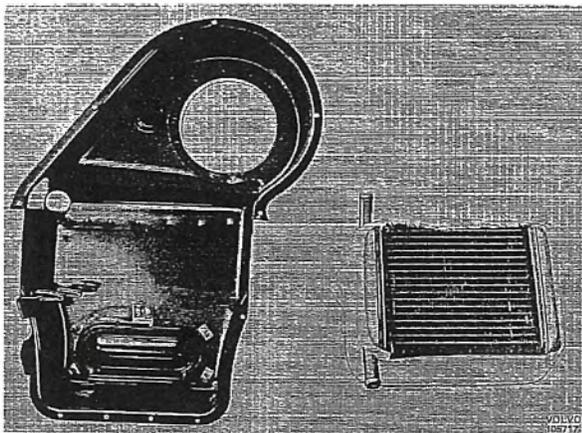

Fig. 8-54. Cell system taken out
3. Lift out the cell system (Fig. 8-54).